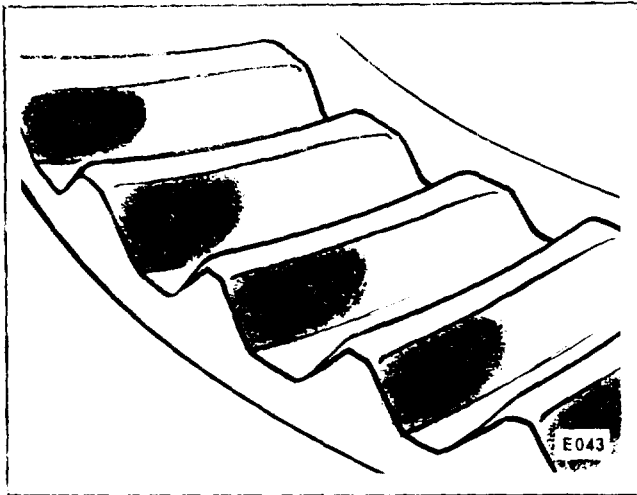

Figure 20.
3. Figure 20 shows short contact at heel. To correct, move gear toward pinion. Then move pinion away from gear to again secure correct backlash.